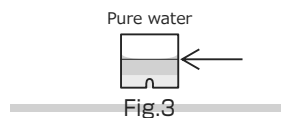

Fig.3
3. Fill the Cell with pure water (or tap water) for 1.5 mL (up to line). (Fig.3)